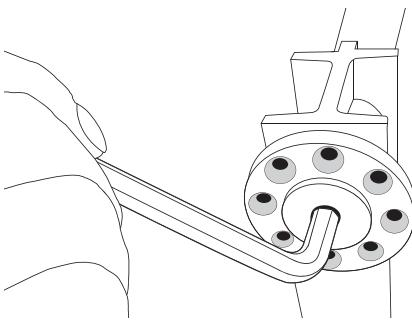

FIGURE 6
2. Tighten both adjustment plates by 1 or 2 holes (Fig. 6).